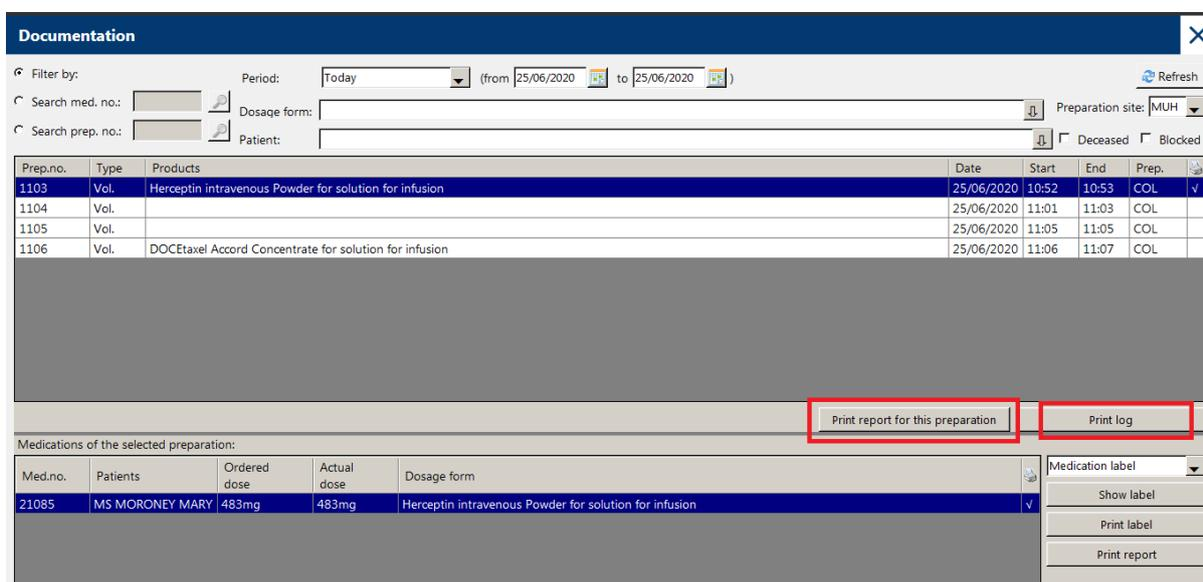

Figure 6: Documentation screen
- When the preparation is completed, there are a number of places where the preparation of the product can be traced. When using the guided preparation method each preparation step is documented in real time, In the documentation screen (Figure 6), the “report for the preparation” can be generated (figure 7), which includes the preparer and assistant check details, or a detailed “preparation log” (figure 8) which outlines every step of the preparation.